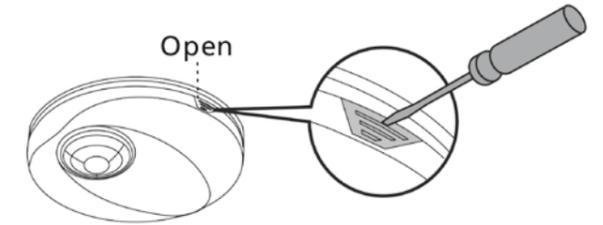

Fig. 4
1. Insert a large flat blade screwdriver into the groove as shown each side in turn and twist (see Fig. 4) to remove outer cover.